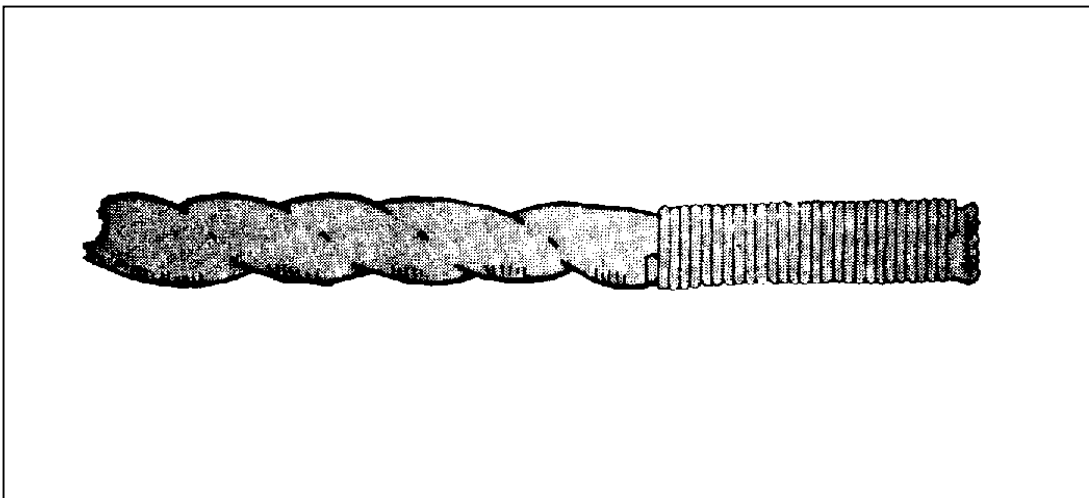

Figure 11-11. Whipped rope end
m. Whipped Rope End. Whipping (Figure 11-11) is wrapping the end of a line with cord to keep the line from unraveling. The cord is wrapped to the end of the line in the opposite direction of the lay of the line.